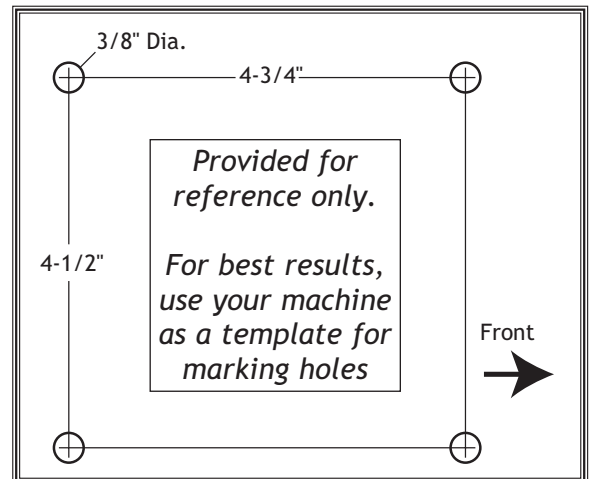

Figure 4. Mounting bolt layout.
1. Position the buffing assembly on the workbench in the desired position. Mark the four mounting hole locations onto the workbench, as shown in **Figure 4**.
4. Place the buffing assembly over the mounting holes in the workbench. Using (4) $\frac{5}{16}$ " diameter lag bolts or through bolts, attach the buffing assembly to the workbench, making sure that it is secure.